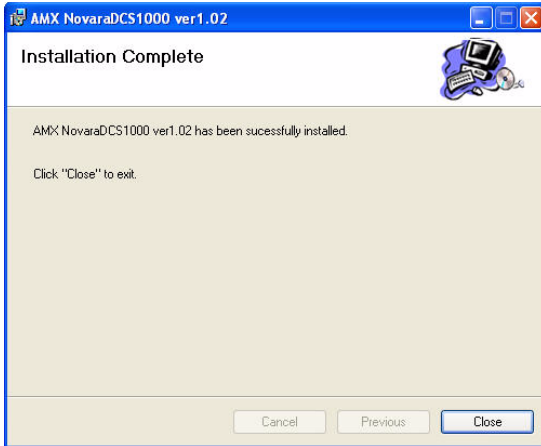

FIG. 42 Installation Complete dialog
5. In the *Installation Complete* dialog, click **Close** to finish (FIG. 42).